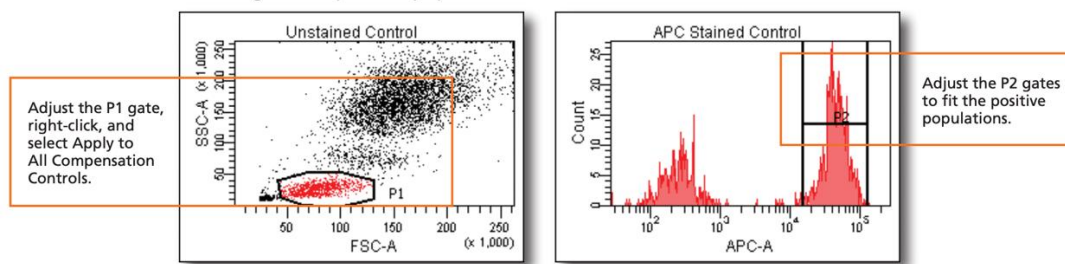

Figure 10 - Run Compensation Controls in FACSDiva
- Repeat the same operation as point 3 for the Single Colour Controls. Adjust the P2 gate so that it contains the positive population (see Figure 10).